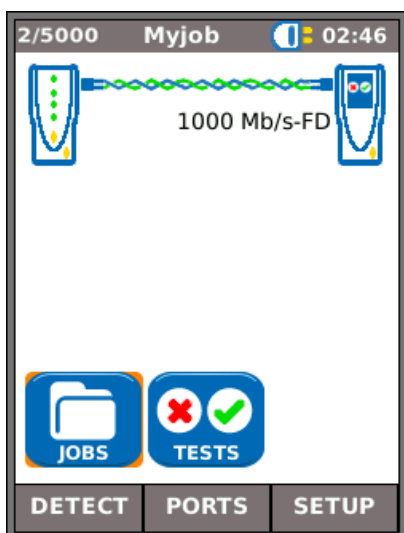

Fig 8
(1) When the Near-End Unit and Remote Unit are directly connected, with copper or fiber cable, press the soft key DETECT (F1) to detect all options available (Fig 8). In addition to wiremap tests (copper), cable performance can be tested and measured. For a full description of these options see *Tests menu description - Ethernet mode, page 24*.